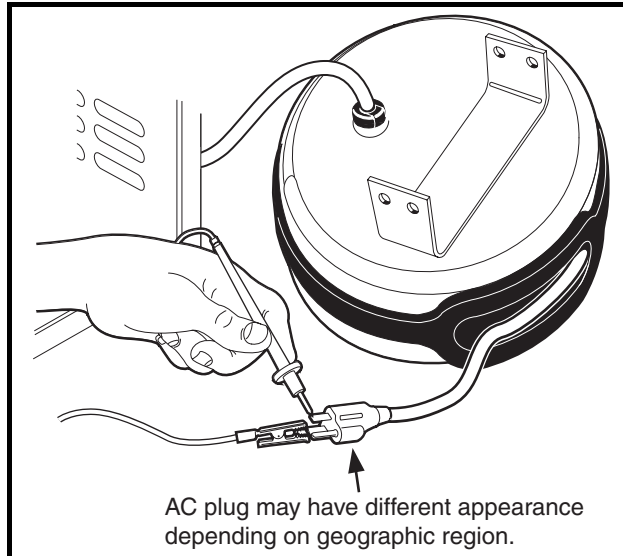

Figure 4-13 AC Circuit Continuity Test
- 5.4. With relay bypassed, there should be continuity across the AC cord blades (**Figure 4-13, Page 4-16**).